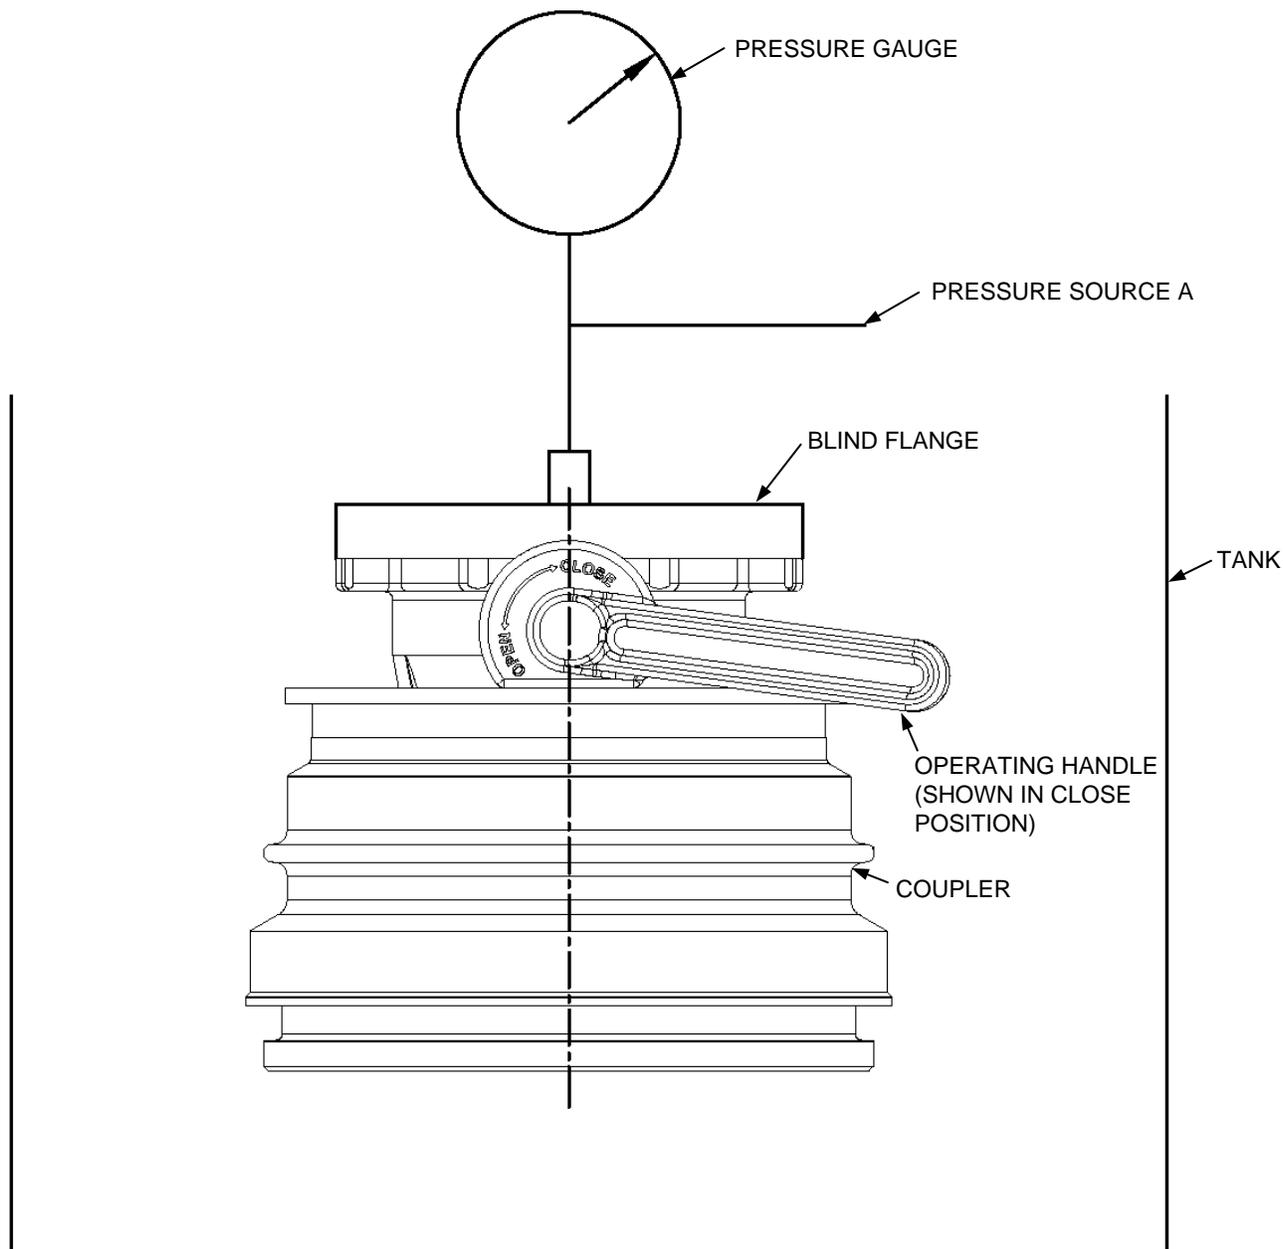

Figure 5. Proof Pressure Test
B. Proof Pressure Test (See Figure 5)